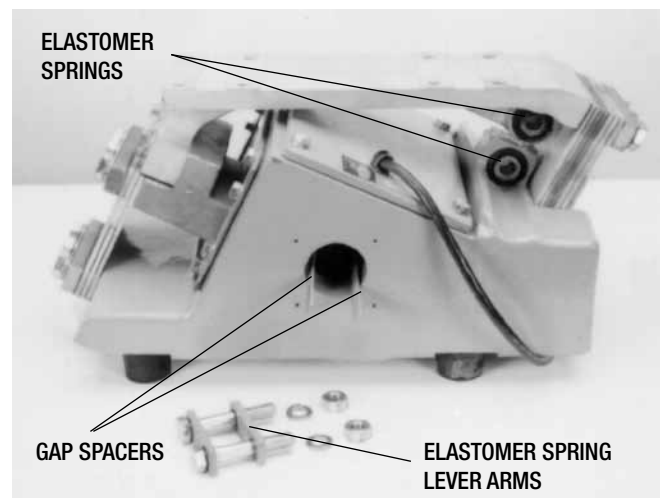

FIGURE 9
3. In replacing the elastomer springs, lay the unit on its side so that the chamfered ends of the spring holes are up. After making sure that the holes and their chamfered ends are clean and free from obstructions, lubricate the elastomer spring with a solution of water and 10% of liquid dishwasher soap (never use a petroleum or silicone lubricant) and press them partly into place with the thumbs. Then tap the springs  $1/16$ "- $1/8$ " past center, then back into place, again using the small supporting block between tiebar and work surface. Make sure that the springs go in straight and protrude equally at both ends of both spring holes (see Figure 9).